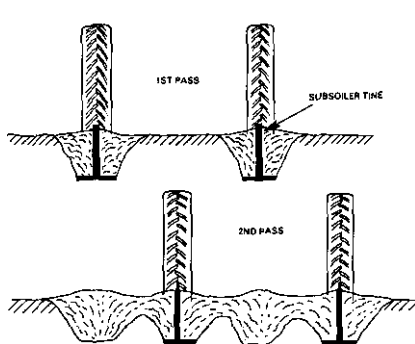

FIG. 4a
4. Where the tractor can pull two tines at the required depth. With the usual method of working with two tines, not all the soil is completely loosened at depth, shown in Figure 4a.